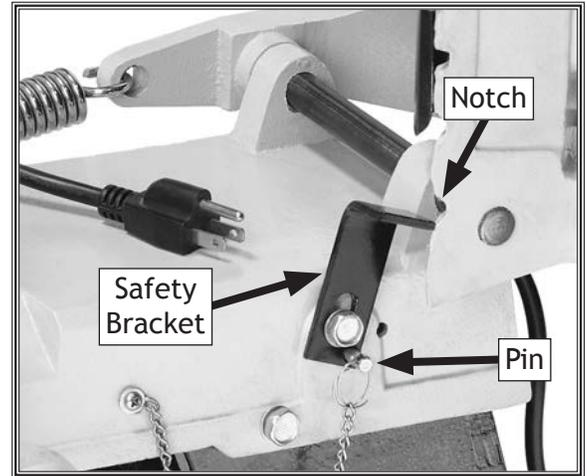

Figure 25. Safety bracket in position.
6. Install the safety bracket and lock it in place with the pin shown in **Figure 25** to keep the saw from falling.